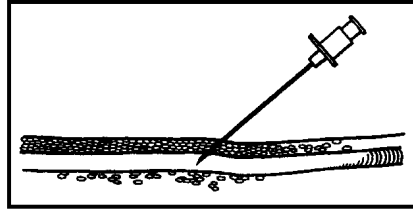

Figure 3-20
- (d) While occluding the external jugular vein distally and applying tension on the skin over the vein in a caudoventral direction with one hand, hold the needle with the other hand and identify and pierce the external jugular vein with the needle. You should see blood coming out of the needle to verify proper venipuncture. (See Figure 3-20.)